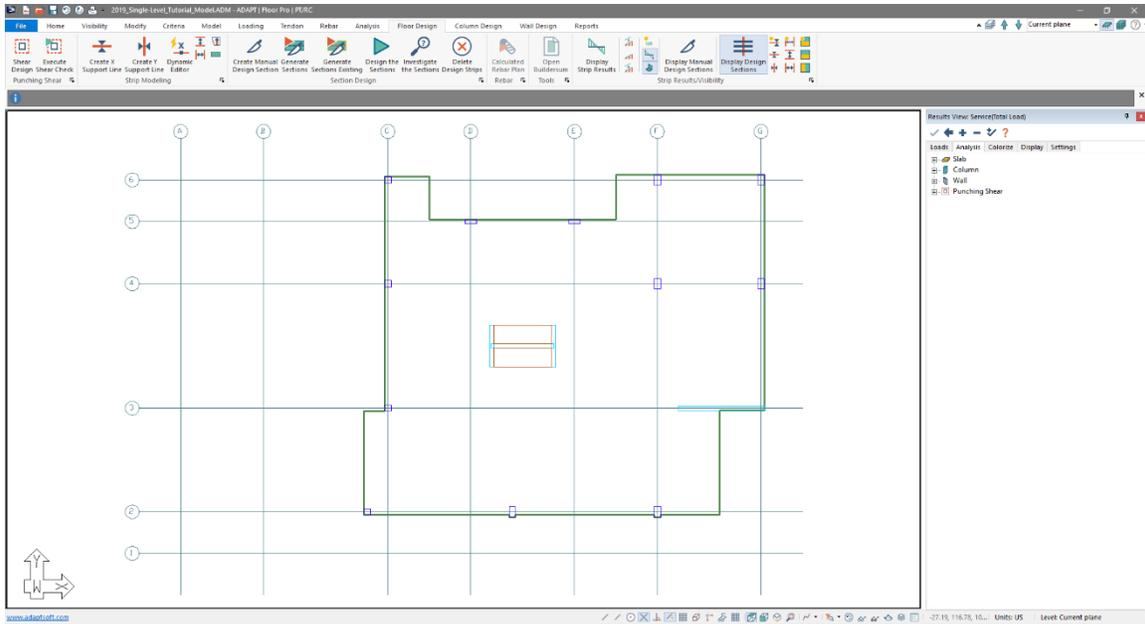

Figure 8-74
- The users should now see the model as shown in **FIGURE 8-74**.